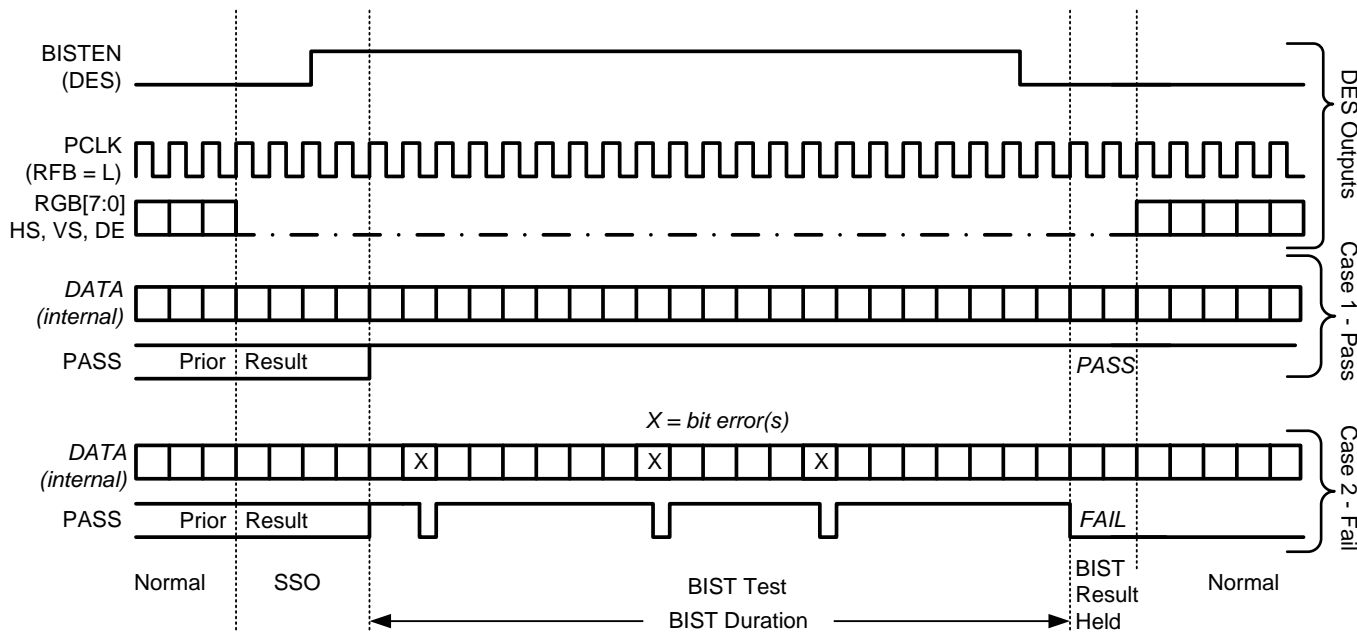

Figure 15. BIST Waveforms
**Step 4:**The Link returns to normal operation after the deserializer BISTEN pin is low. Figure 15 shows the waveform diagram of a typical BIST test for two cases. Case 1 is error free, and Case 2 shows one with multiple errors. In most cases it is difficult to generate errors due to the robustness of the link (differential data transmission etc.), thus they may be introduced by greatly extending the cable length, faulting the interconnect, reducing signal condition enhancements (Rx Equalization).